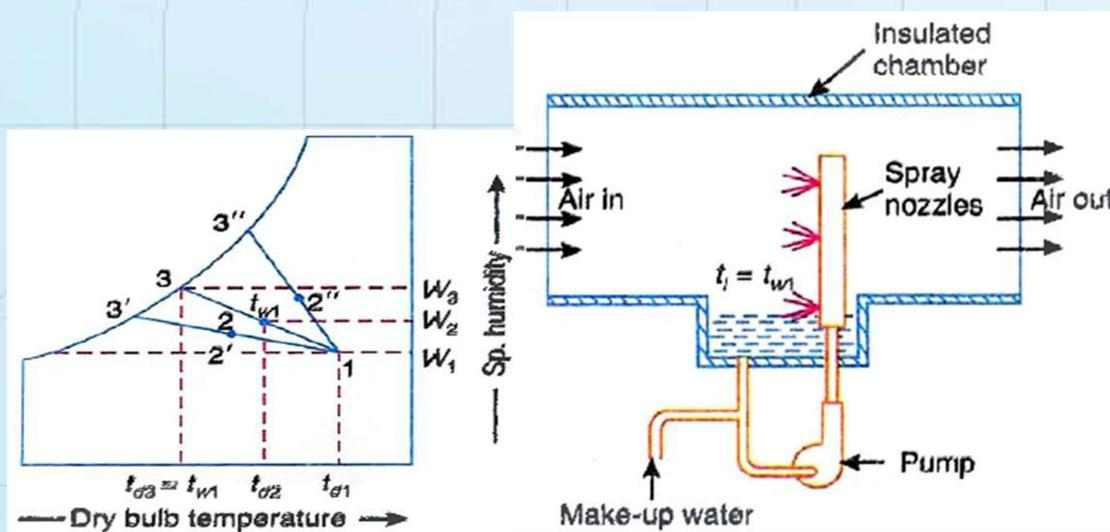

Fig.2.10 – Cooling and humidification
- ▶ The *insulated spray chamber* is used for the adiabatic saturation of air containing water with an arrangement for make-up water as shown in Fig. 2.10.